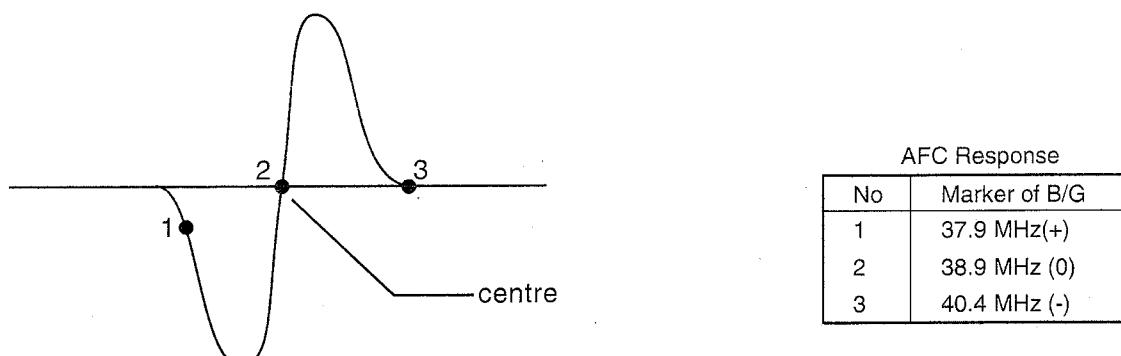

Fig. 10 AFC Response Curve.
5. Tune T102 for 60% level of 38.9MHz as shown in Fig. 10.
6. Tune T101 for 35% level of 34.47 MHz as shown in Fig. 10.